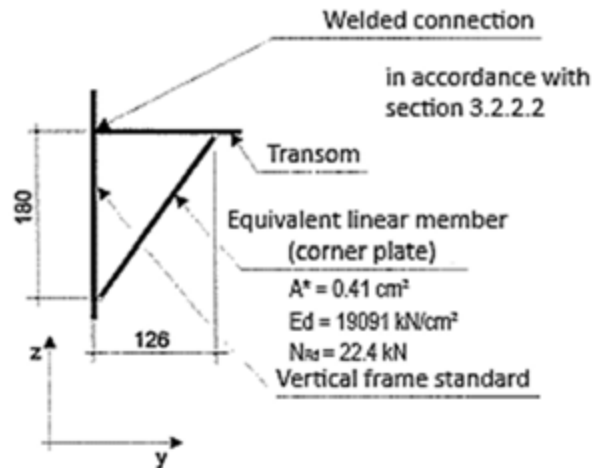

Figure 5: Characteristic values for the connection of the transom and the vertical frame post to the lightweight gusset plate
Proof of structural stability of the scaffold system may be provided assuming that the “gusset plate, lightweight” at the connection of the transom and the vertical frame post of the vertical frames is an equivalent linear member with a nominally pinned connection on both sides with the reduced cross section area (A^*) according to figure 5.
If it is not possible to ensure that only vertical frames with a gusset plate shall be used in a scaffold or that their effect on the structural stability is taken into account by means of detailed calculation and design documents, the smaller reduced cross sectional area (A) of the lightweight gusset plate in accordance with figure 5 shall be used for the proof of structural stability of this scaffold.